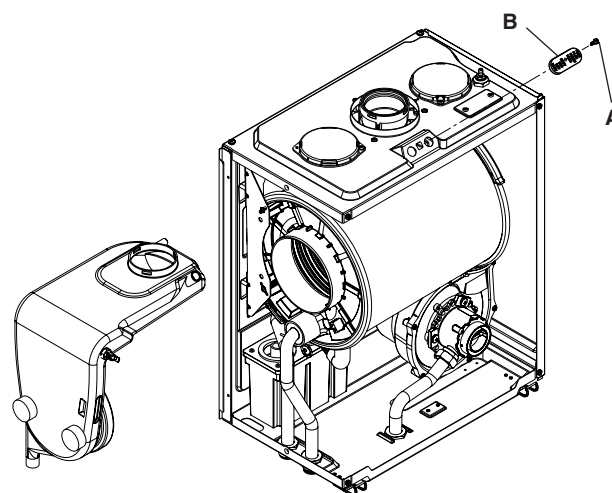

Fig. 36
6.26 FLUE COLLECTOR REMOVAL (fig. 36)